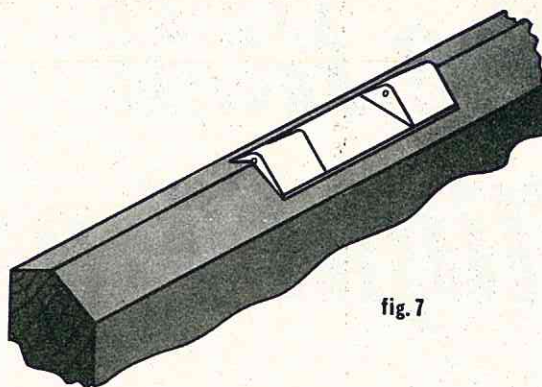

fig. 7
STEP 6. You can now push the hinge right into its seat. Check that the hole for the hinge wire is on center with the apex of the VEE'd edge. (Fig. 7)